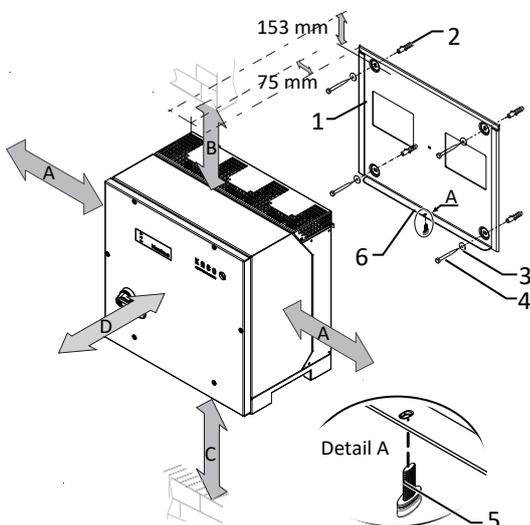

Fig. 11: Minimum clearances for wall mounting
3. Insert the screw provided into the lug of the mount and [$\times T30$ / $\text{m} 2 \text{ Nm}$] ([See figure 11 [▶ Page 18]]).